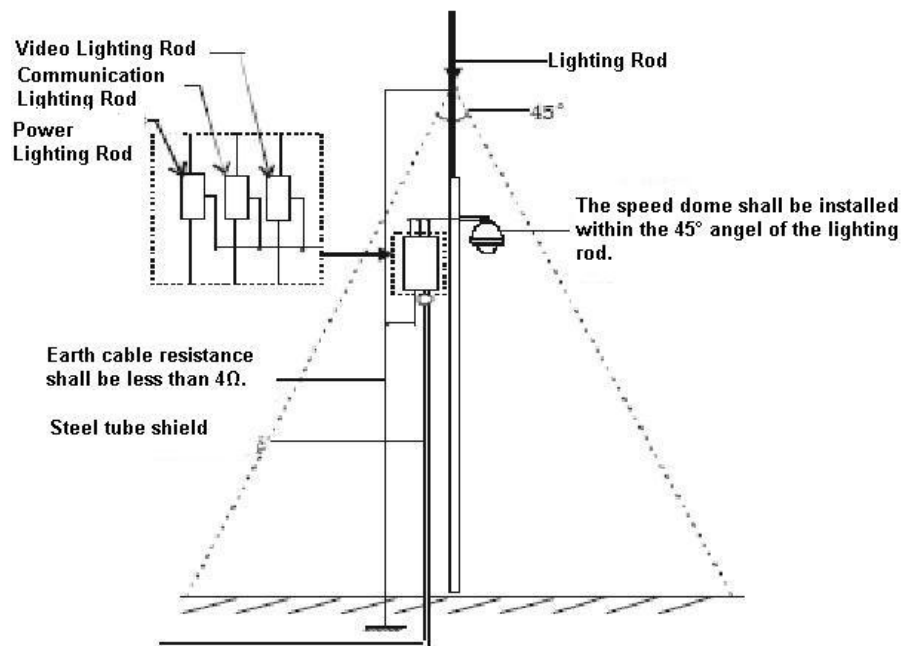

Figure 7-1
- System shall adopt equal-potential wiring. The earth device shall meet anti-jamming and at the same time conforms to your local electrical safety code. The earth device shall not short circuit to N (neutral) line of high voltage power grid or mixed with other wires. When connect the system to the earth alone, the earth resistance shall not be more than 4Ω and earth cable cross-sectional area shall below 25 mm². See Figure 7-1.